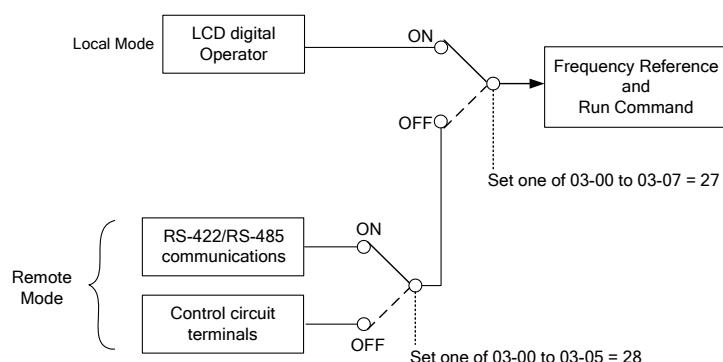

Figure 4.3.23 Remote mode operation selection
- When one of 03-02~03-05=28 (Remote mode selection) · inverter can switch between external terminal source (S1~S6) or communication (RS-485) source. Please refer the figure 4.3.23 .